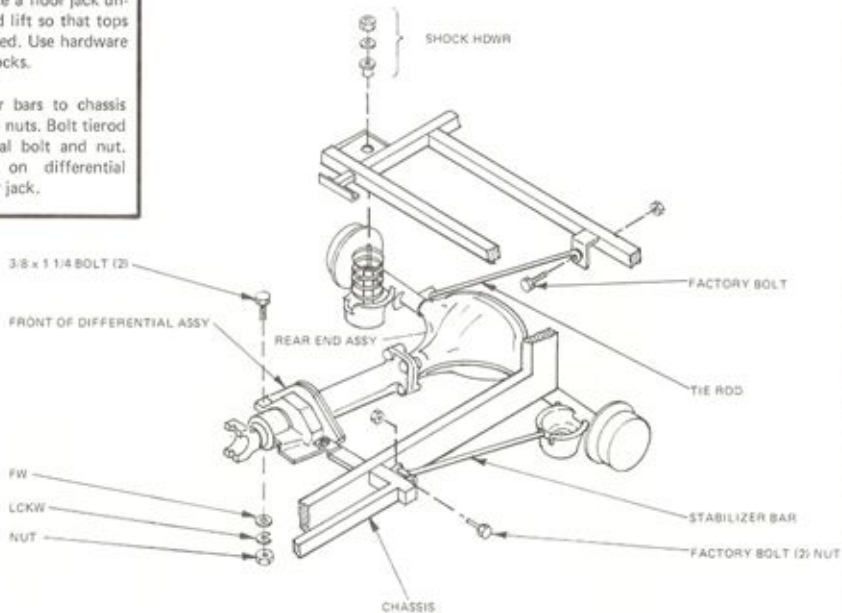

Figure 14
- Roll assembly under chassis and bolt front of differential extension onto chassis (Figure 14) using 3/8 x 1 1/4" bolts with flat washers, lock washers and nut. Hand tighten. Place a floor jack under the differential and lift so that tops of shocks can be secured. Use hardware supplied with the shocks.